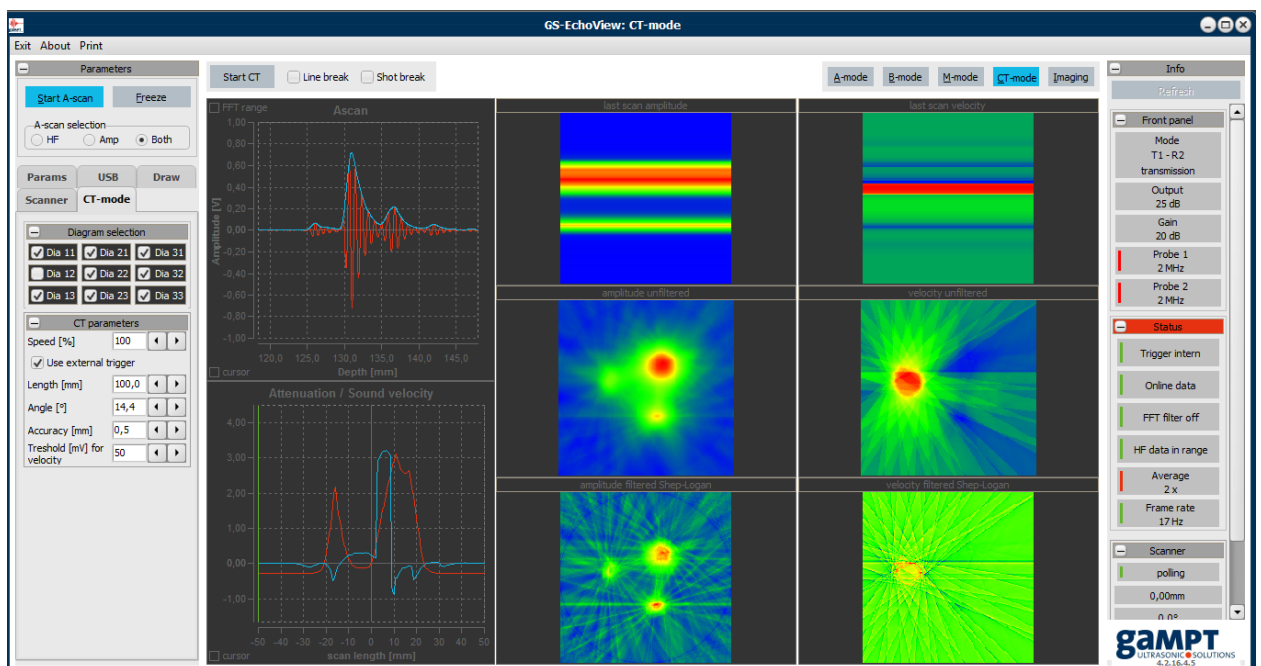

Fig. 5. A typical screenshot of the GS-EchoView programme.
2. Six pictures will appear on the screen (Fig. 5). Two upper images correspond to the absorption spectrum of ultrasound waves by the sample and the sound propagation time in the sample obtained in the last scan (without image filtering). Two panels in the middle show the